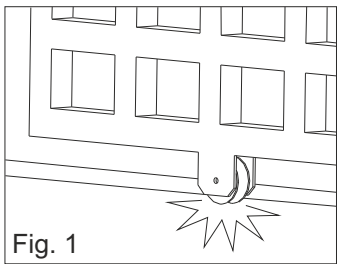
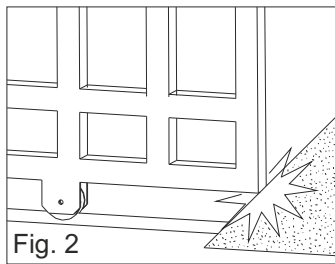

Fig. 1
Fig. 2
- b) That the inferior sliding guide-rail is perfectly straight and horizontal to avoid a derailment of the gate (fig. 1); furthermore it must be free of irregularities and foreign bodies which could obstruct the normal run of the gate (fig. 2 - 3).